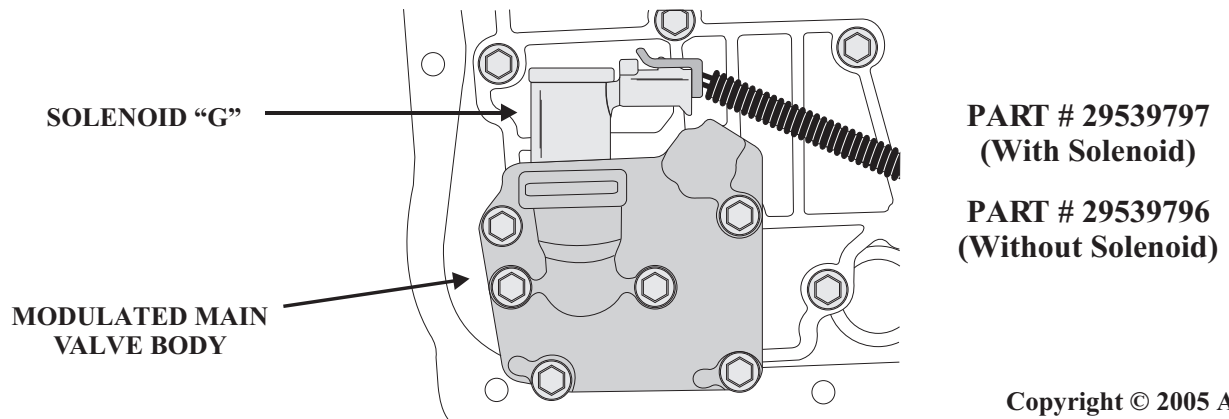

Figure 8
- (6)A Modulated Main Valve Body has been added to accommodate the “G” Solenoid as seen in Figure 8).